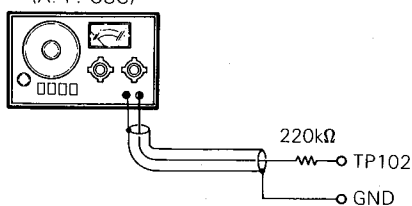
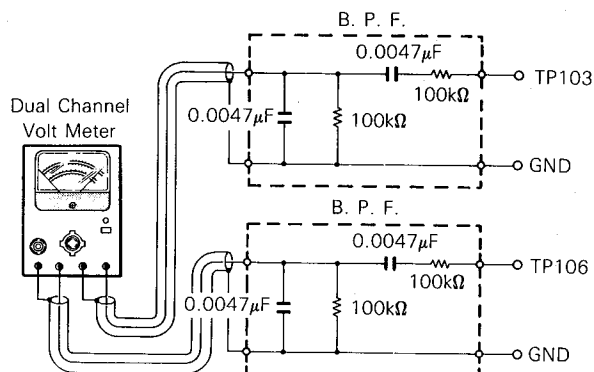

Fig. 24
Fig. 25
- (1) Connect the audio frequency oscillator with 220k ohm resistor to TP102 and GND. (Fig. 24)
- (2) Set the audio frequency oscillator for 800Hz, 200mV.
- (3) Connect AC voltmeter to B.P.F. (Fig. 25)
- (4) Insert the Philips test disc # 5 and place the unit in the play mode on track number 8.
- (5) Connect B.P.F. to test point TP103 and GND and then to TP106 and GND. Measure the output level at each point. (Fig. 25)
- (6) Adjust VR102 so that the voltage difference between TP103 and TP106 becomes 8dB $\pm 3\text{dB}$. (TRG - TRC = 8dB)
- (7) Check tracking offset in step 6-9 and repeat step 6-9 and step 6-10 if necessary.